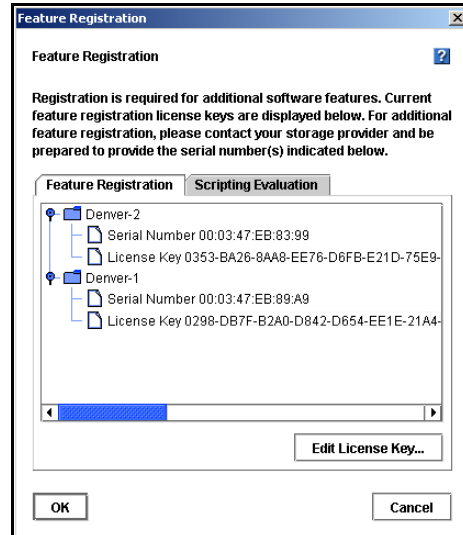

Figure 217. Viewing License Keys
6. Click OK. The license key information is updated in the Feature Registration window, as shown in Figure 217.